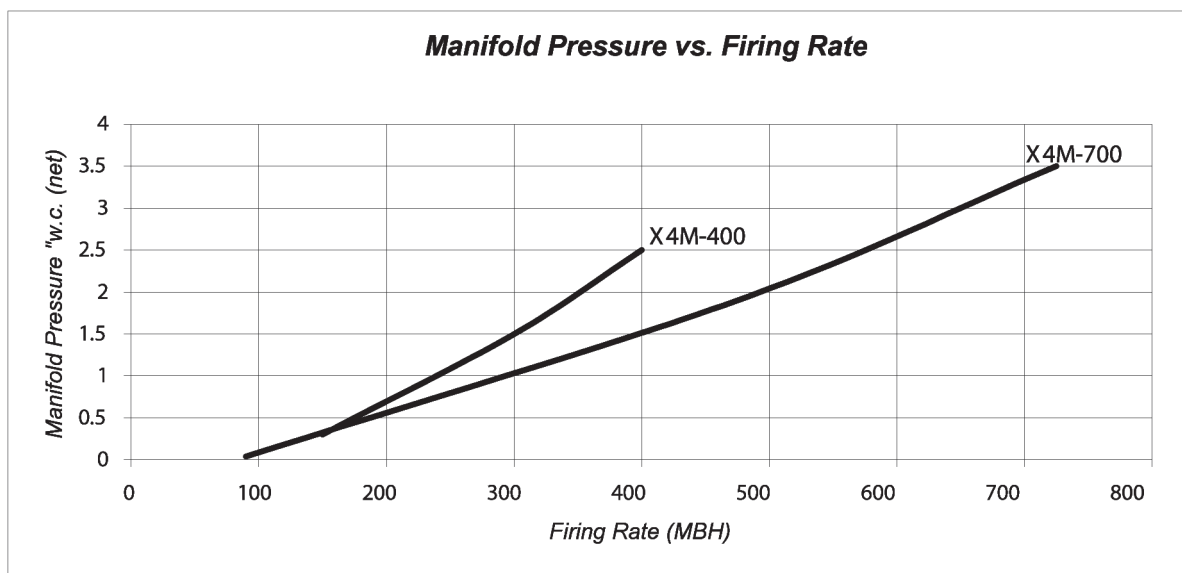

Figure 17: X4M Firing Rate vs Manifold Pressure
- 11.19 The manifold pressures shown are the gas pressures taken at the 1" tee and represent a zero furnace pressure (net manifold pressure). Therefore, the actual furnace pressure must be subtracted from these pressures to obtain the correct firing rate. Example: While firing an X4M-400 the Manifold pressure is 3.0" w.c. The furnace pressure from the manometer reads 0.5" w.c. Therefore, $3" - 0.5" = 2.5" \text{w.c.}$ The chart in Figure 17 shows 2.5" w.c. net manifold pressure is equal to 400,000 BTUH.
- 12.3 When no orifice is used, refer to the pressure/rate on Figure 17, page 22 for the approximate manifold pressure (taken on orifice tee) for a given firing rate.